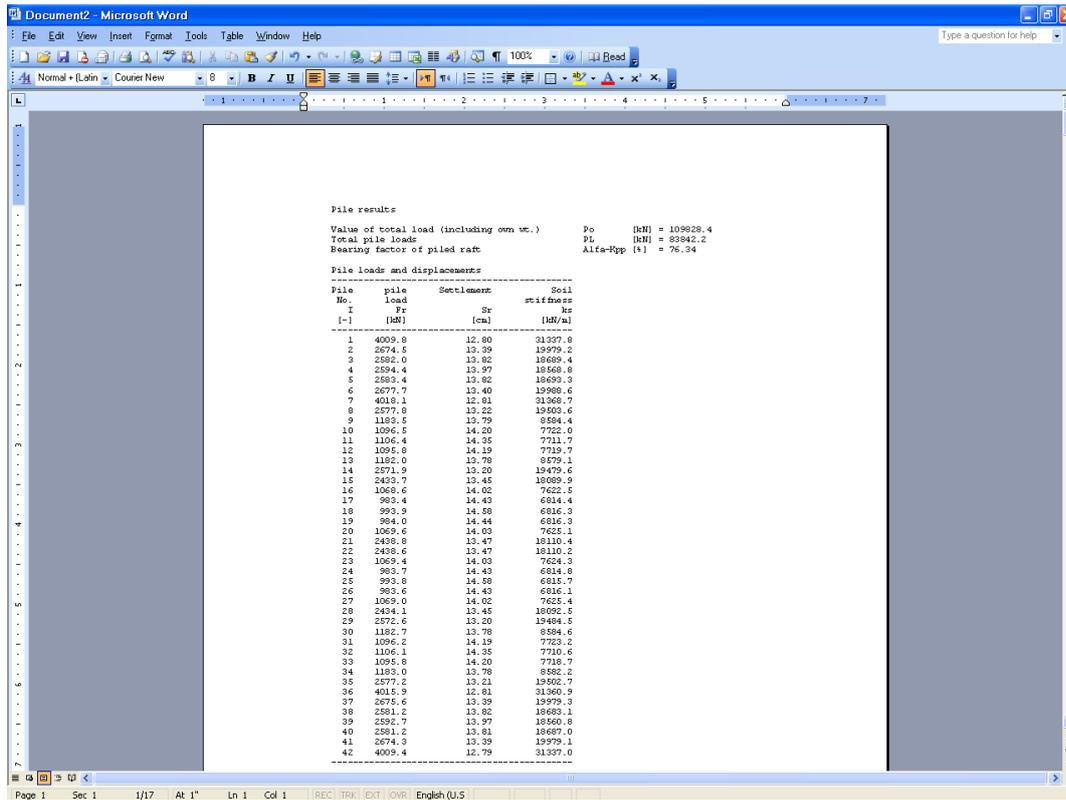

Figure 12-44 Exported results in MS Word
- Choose "Send to Word" from "File" menu if you wish to export the text to the MS Word application, Figure 12-44